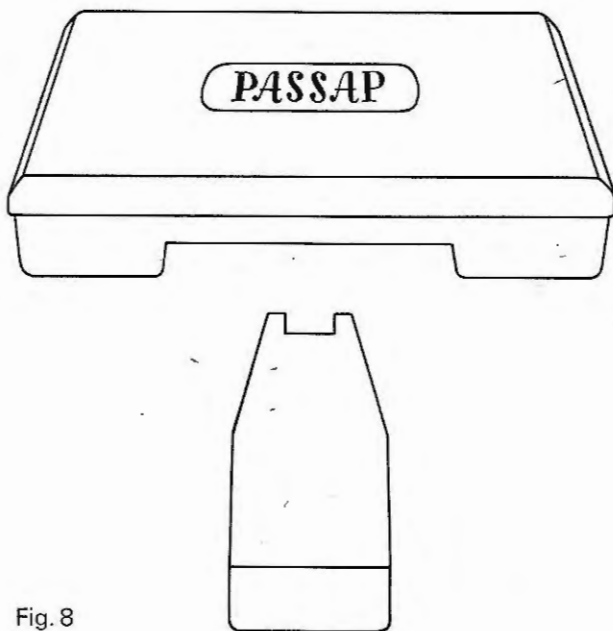

Fig. 8
**Plastic box and support, fig. 8,